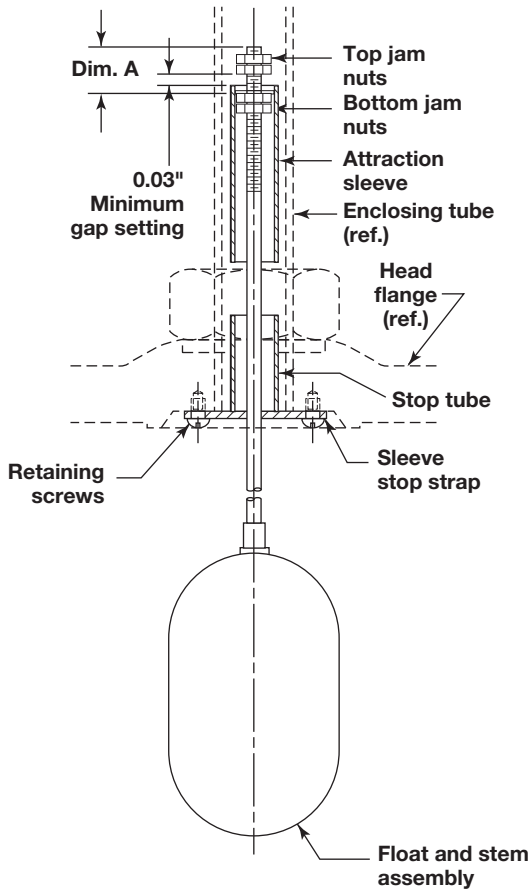

Figure 10
NOTE: New float and stem kits are supplied unassembled. For standard jam nut settings (dimension A) refer to Figure 10 and Table 1.
- 4.3 Set attraction sleeve per dimension A as shown in Figure 10.